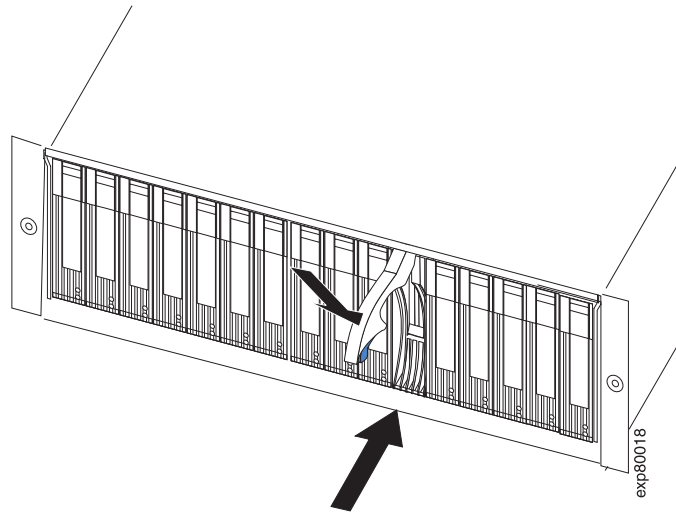

Figure 20. Replacing a hard disk drive
1. Lift up on the handle and gently push the drive CRU into the empty bay until the hinge of the tray handle latches beneath the storage expansion enclosure bezel, as show in Figure 20 on page 35.